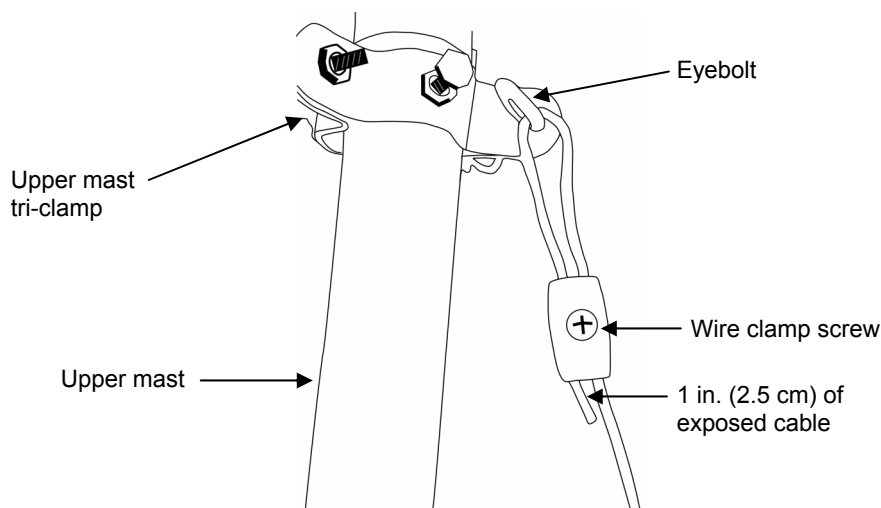
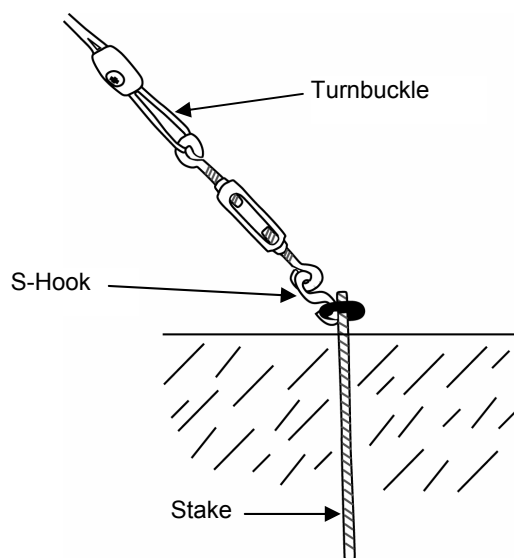
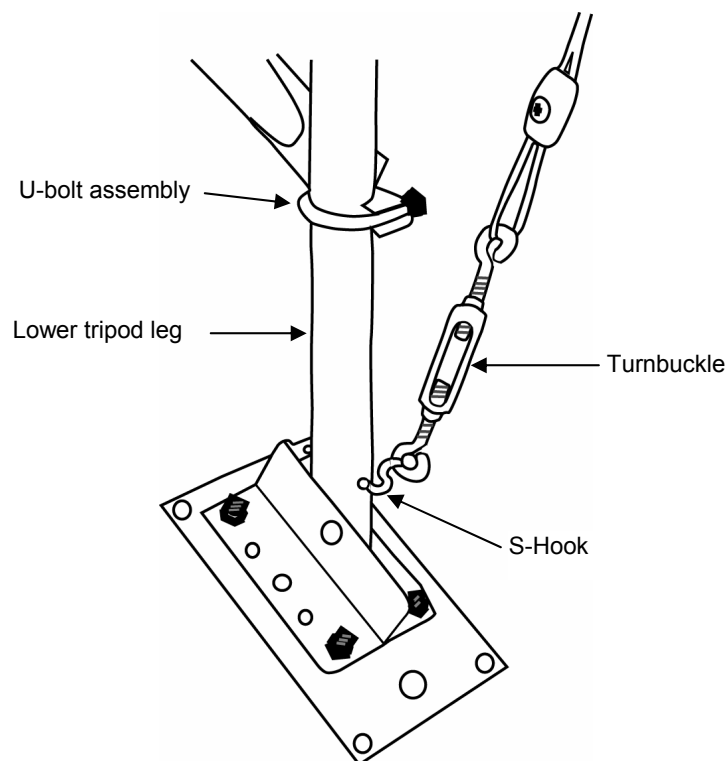

Figure 29: Guy wire attachment
Figure 30: Guying to 1/2 inch Stakes
Figure 31: Guying to 3 Meter tripod feet
3. Hook one "S" hook and one turnbuckle onto the corresponding stake (see Figure 30) or leg (see Figure 31).
4. Cut the guy cable so that it can be put through the loose end of the turnbuckle and the wire clamp (see Figure 29 if using the 2 meter tripod; see Figure 30 if using the 3 meter tripod). Make sure the turnbuckle is extended as shown in the figures before feeding the cable through.